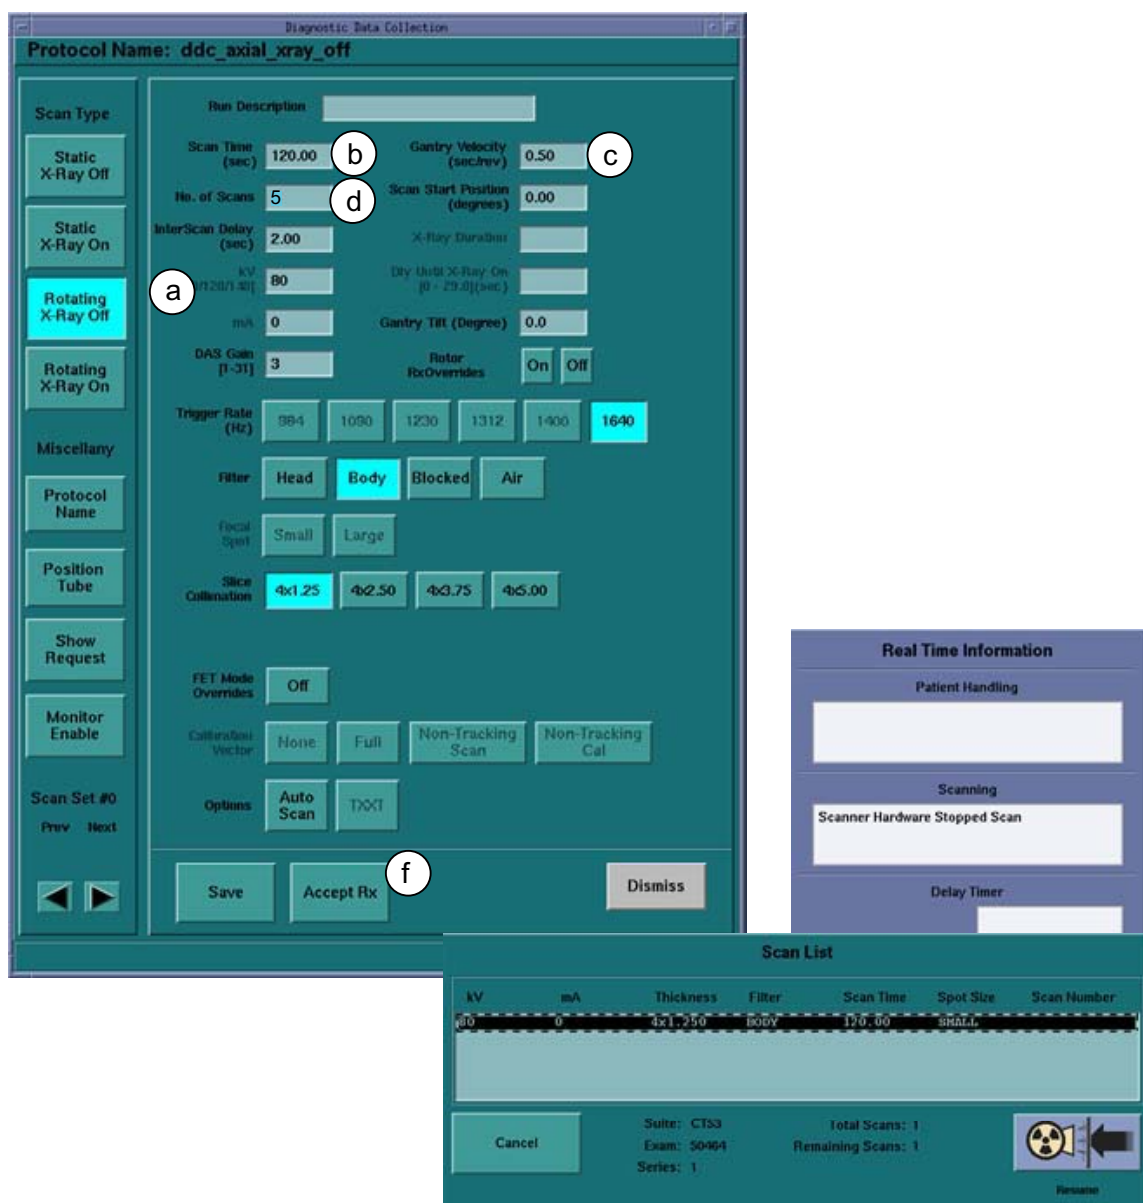

Figure 4-13 DDC Tool
- 2.) Prepare System for DDC Scan. Refer to Figure 4-13.